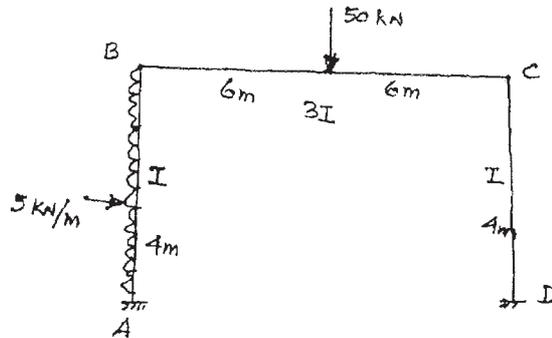

Fig. 5
- (b) Analyse the frame shown in Fig. 5 by slope deflection method.